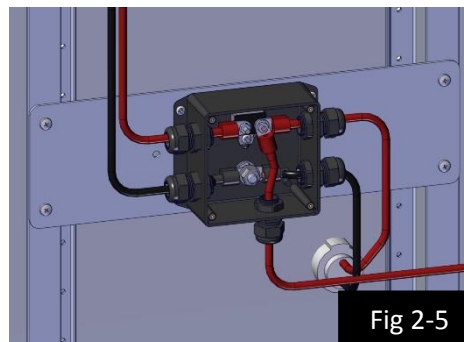

Fig 2-5
f. If the wire is in a junction box. (See Fig 2-5)